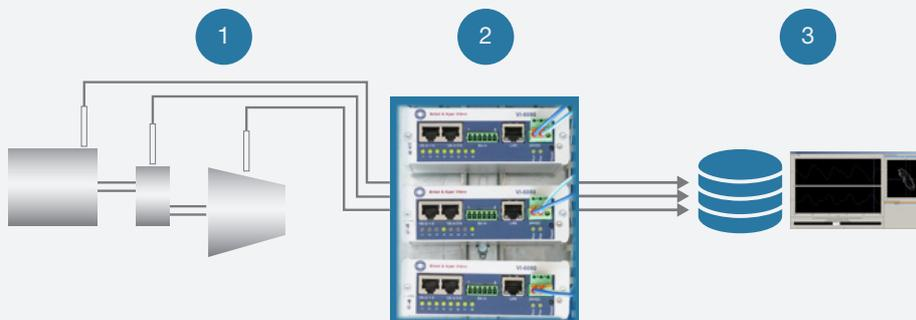

Figure 2. **Installing Compass 6000™ condition monitoring capability without a protection system:** Sensors (1), VI-6080 (2), Compass 6000™ server (3).
- Adding condition monitoring where there is no protection system (Figure 2 overleaf)
Non-critical machines that are not equipped with a machine protection system, but are important from a predictive maintenance point of view, can also be integrated into the condition monitoring fleet by installing additional sensors and sending their signals directly to Compass 6000™ via the VI-6080, as shown in Figure 2.